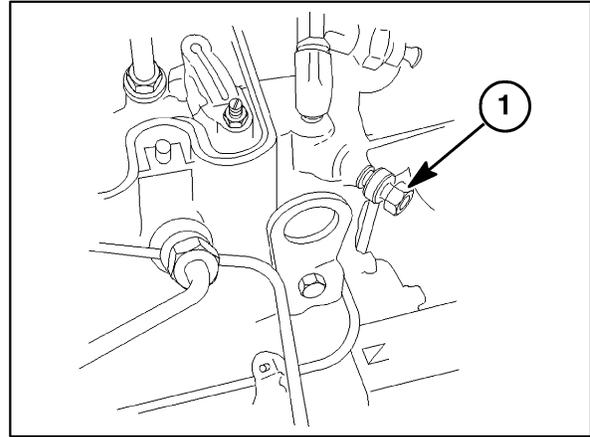
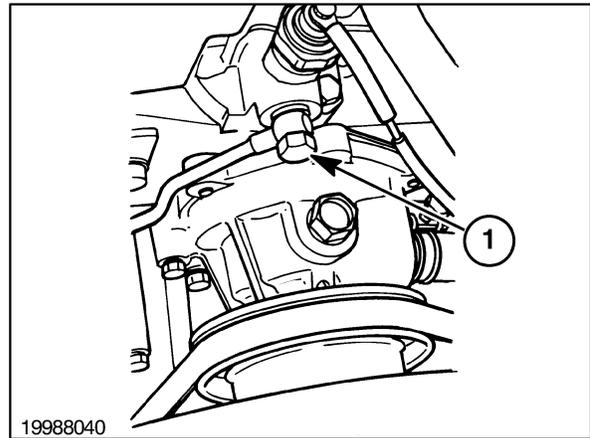

Figure 1-12
Figure 1-13
2. Remove the external oil transfer tube banjo bolt, 1, from the front of the cylinder head. Figure 1-12 illustrates the 25 and 30 Series and Figure 1-13 illustrates the TC models.